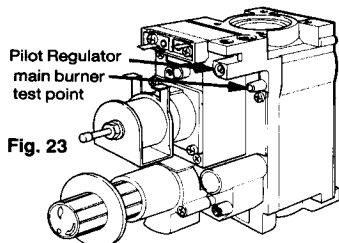

Fig. 23
6.10.1 With the burner on high flame, turn the gas knob in a clockwise direction and confirm that a definite 'click' is heard. Relight pilot (6.5.4). Fig. 23